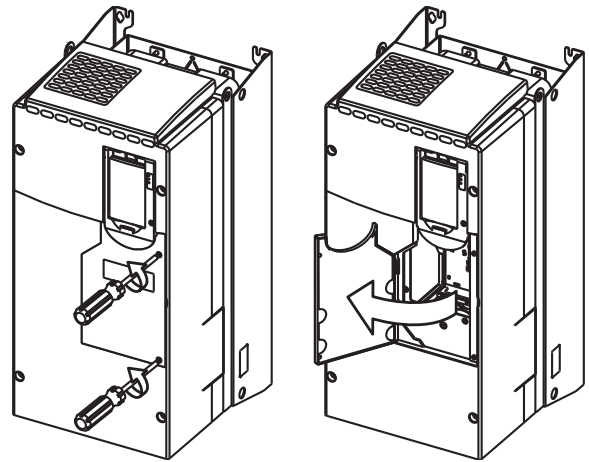

Fig. 19 — Open Access Door
1. Using recommended screwdriver (6.4 mm [0.25 in.] flat or T20 star), open access door. See Fig. 19.
1. Disconnect power to the drive. Before removing the enclosure, open the access door on the front of the drive. See Fig. 19.